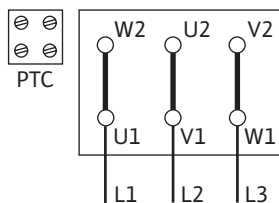
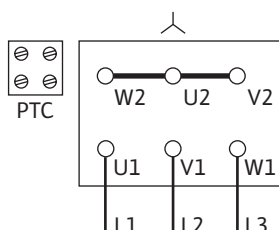

Fig. 10: Y-Δ start
Fig. 11: Y-connection
- The mains connection is dependent on the motor power  $P_2$ , mains voltage and activation type. Refer to the following table and Fig. 10, 11 and 12 for the required connection of the connection bridges in the terminal box.
| Direct          | Δ-connection (Fig. 10)               | Y-connection (Fig. 11) | Δ-connection (Fig. 10 above)         |